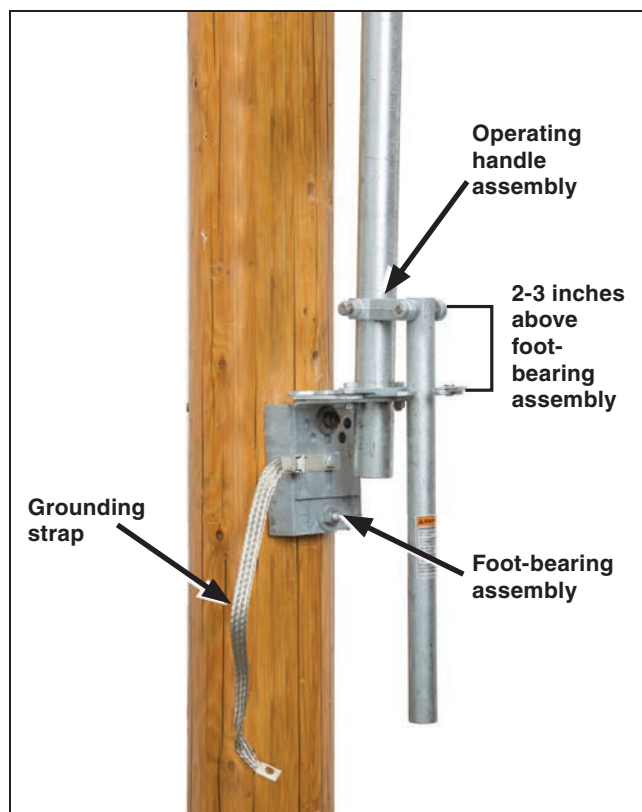

Figure 33. Attach the foot-bearing assembly.
**STEP 31.** Slide the foot-bearing assembly onto the lowest section of pipe at the position shown on the erection drawing. See Figure 33. Adjust the operating handle assembly until it is 2 to 3 inches (5 to 8 cm) above the foot-bearing assembly. Tighten the piercing set screws, piercing the pipe. Continue turning until a firm resistance is felt, and then use one of the mounting bolts to attach one end of the ground strap (the end with the grounding connector attached) to the foot-bearing assembly. The grounding recommendations in this document may differ from the standard operating and safety procedures of certain electric utility companies. Where a discrepancy exists, the operating procedures of the electric utility apply.